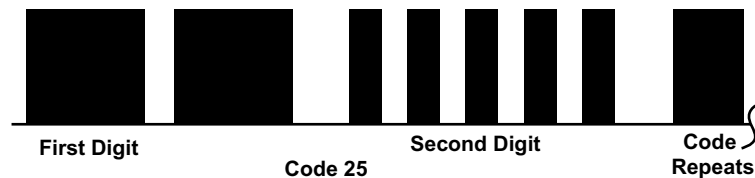

Figure 4-26 Acura transmission Code Type 03
- Type 03, see Figure 4-26 and Table 4-7.